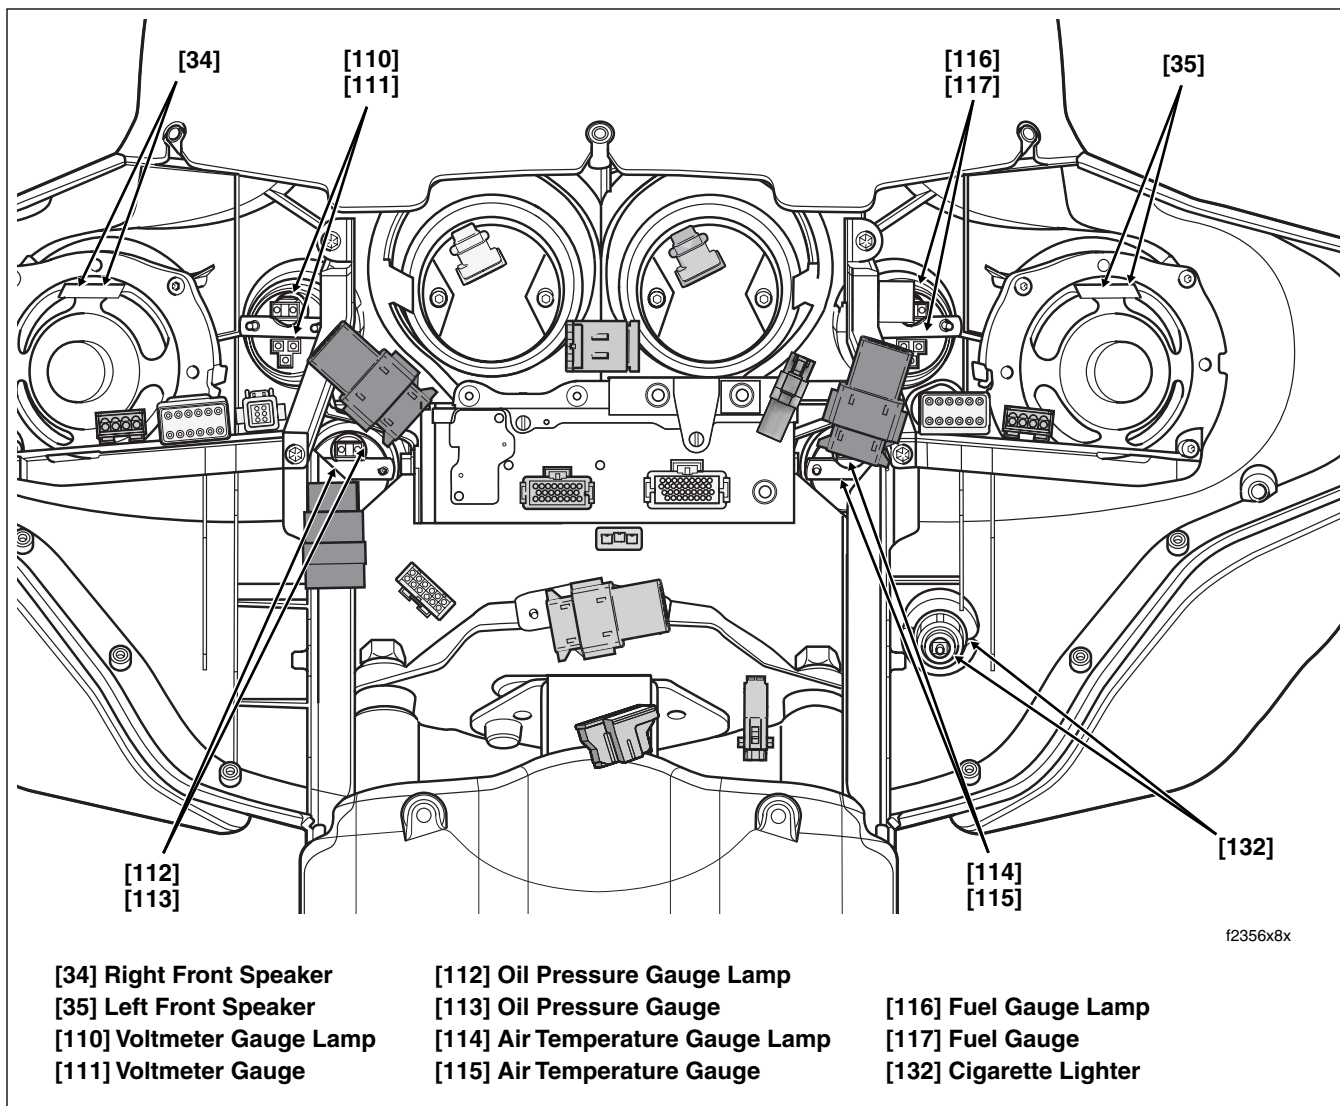

Figure 8-173. Inner Fairing - Interconnect Harness Connectors (FLHX, FLHTC/U)
8. See Figure 8-173. Remove connectors from spade contacts as follows:
11. See Figure 8-173. Remove connectors from spade contacts as follows: